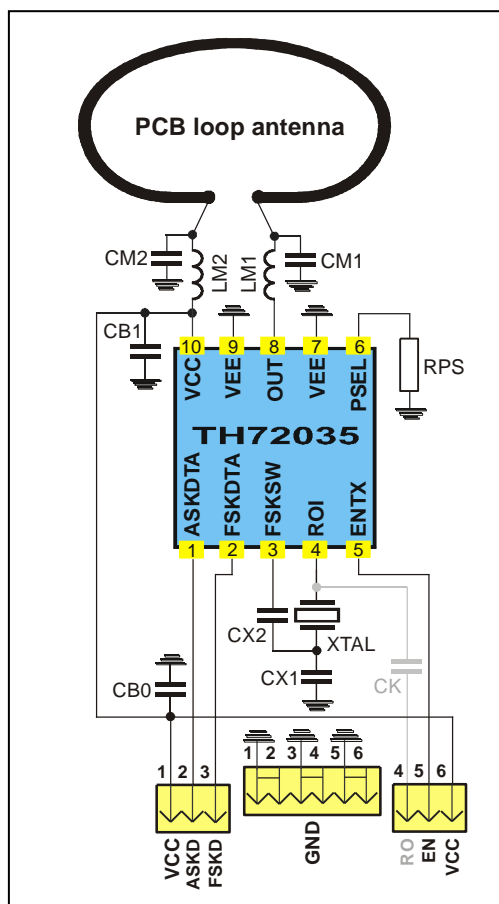

Fig. 6: Circuit diagram with loop antenna matching network
3.1. Board Component Values to Fig. 6